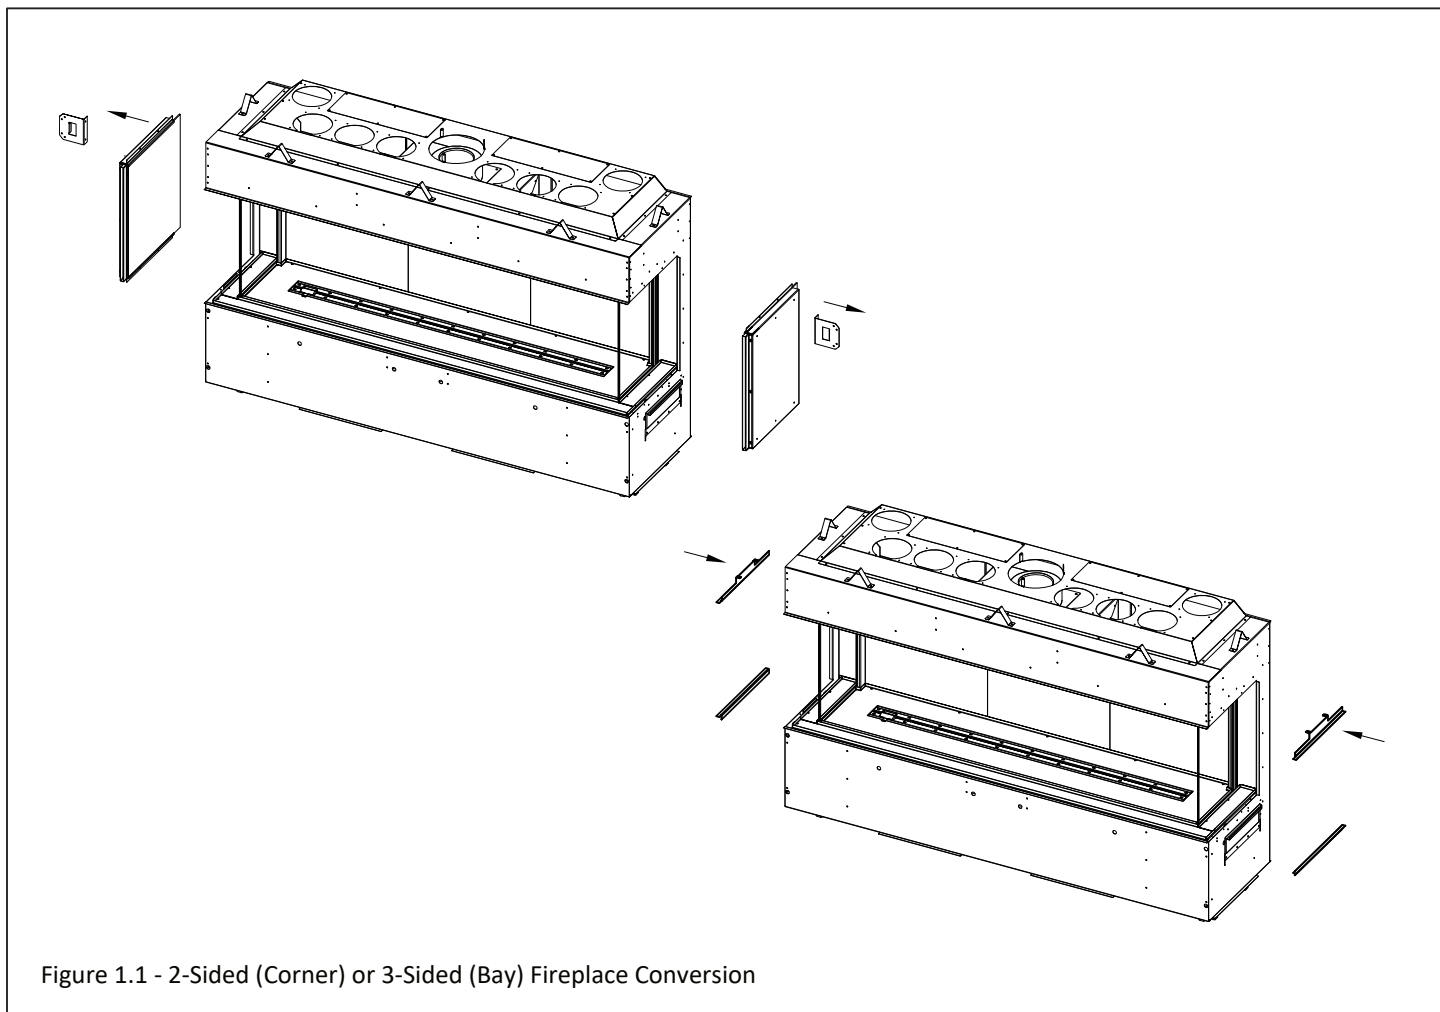

Figure 1.1 - 2-Sided (Corner) or 3-Sided (Bay) Fireplace Conversion
Figure 1.1 shows the full conversion process for both sides of the fireplace. If you want a corner fireplace then only remove the block off plate for the side of the fireplace you want visible and perform the conversion to that side. For a three-sided (Bay) fireplace then follow all instructions to complete the conversion on both sides.
1. Remove and discard the nailing flanges and side block off plates for one or both sides depending on your installation choice. See Figure 1.1. Save these screws for Step 2.